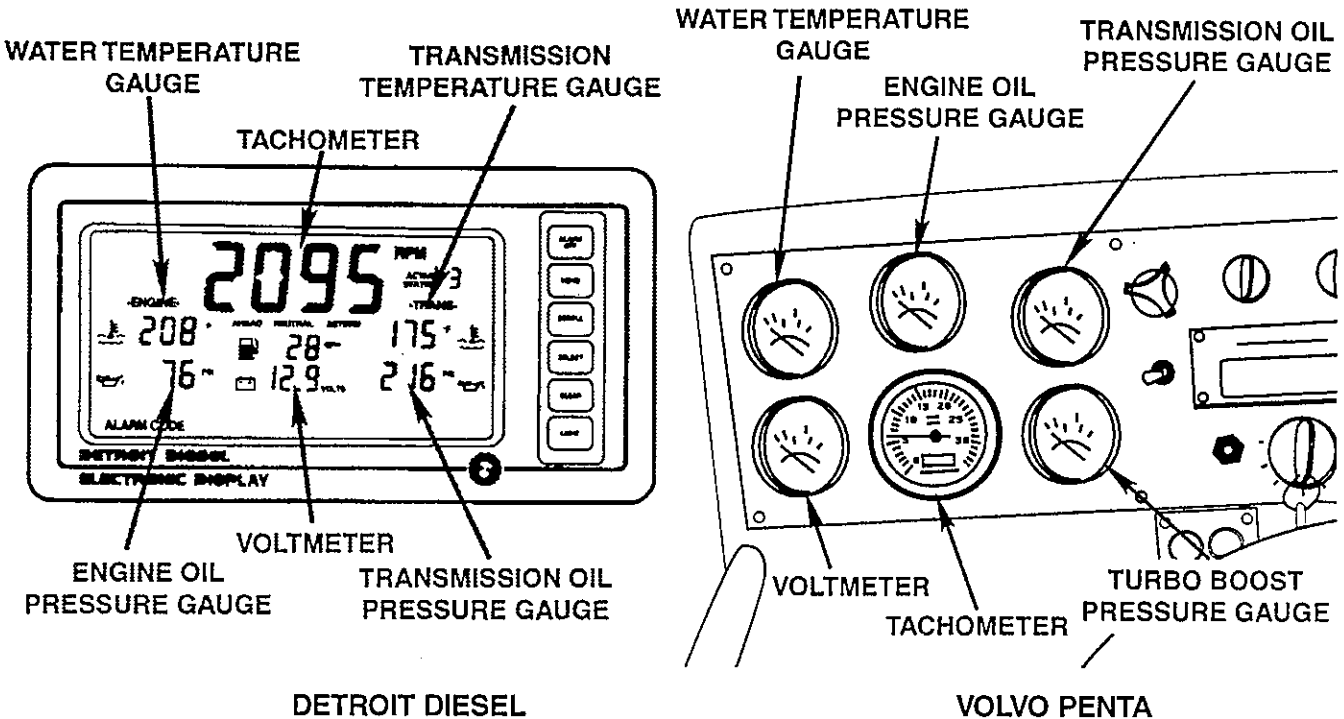

Figure 3-15 Engine Instruments
5. See Figure 3-15. Check that oil pressure is rising. If pressure does not rise, immediately shut down engine.
11. See Figure 3-15. Check that oil pressure is 45 to 65 PSI. If pressure is low, immediately shut down engine.